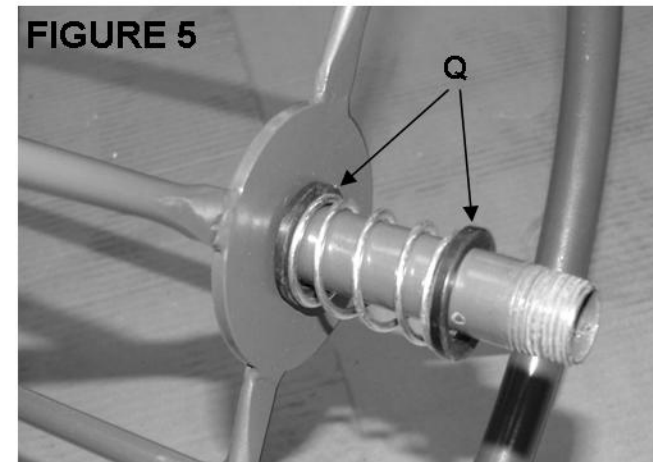

FIGURE 5
5. Turn the spool around and slide a plastic spacer washer (Q), spring (R) and another plastic spacer washer (Q) over the pipe. See Figure 5.